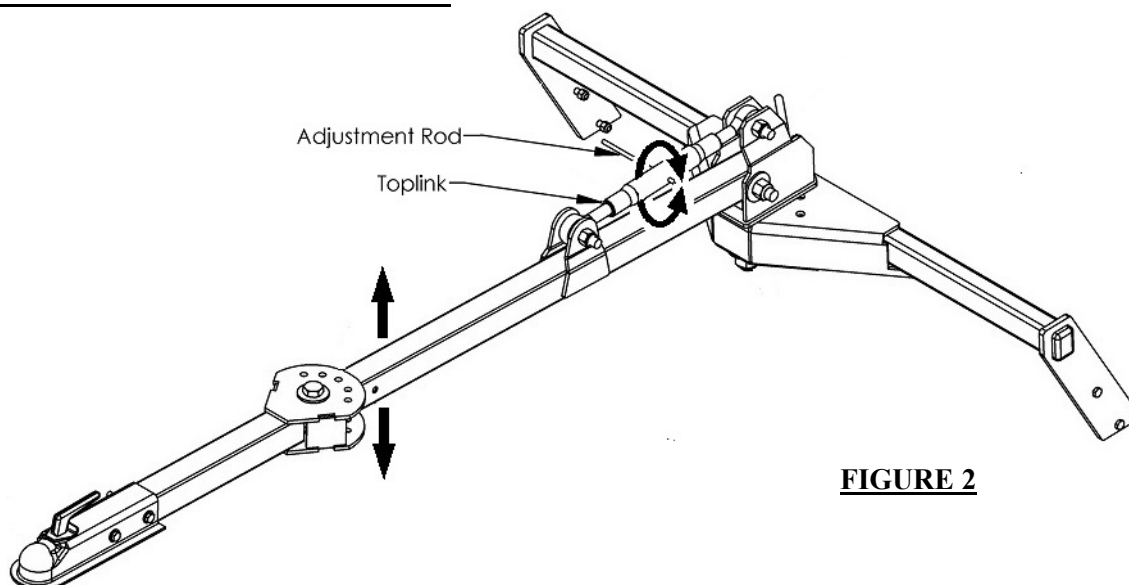

FIGURE 2
- Adjust the top link located on the front of the hitch to level the mower after adjusting the cutting height (See figure 2 page 11).